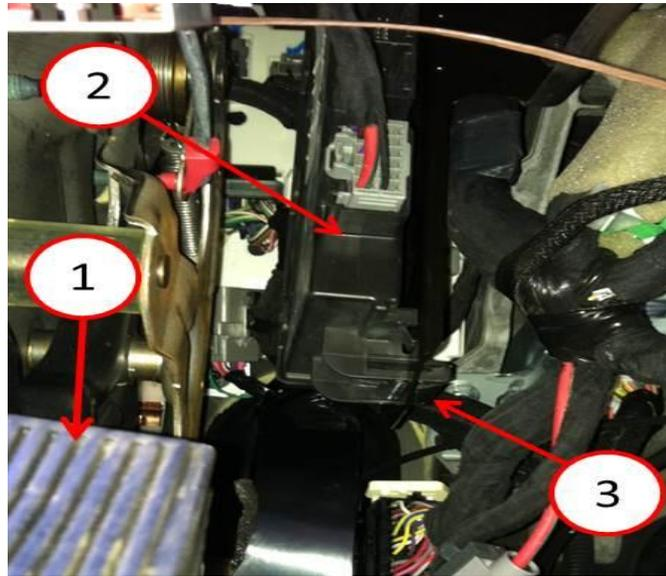

Fig. 1 Location Of VSIM and Release Tab
4. The VSIM is located under the dash next to the park brake pedal, see (Fig. 1).